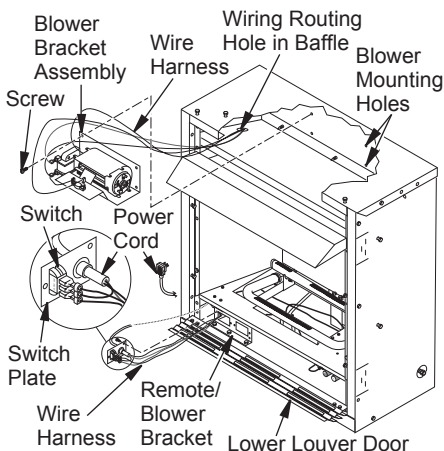
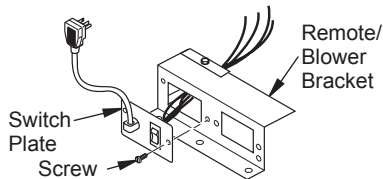

Figure 14 - Installing Blower Bracket Assembly (Remote-Ready Unit Shown)
Figure 16 - Installing Switch Plate to Remote/Blower Bracket
- Note the wire locations on back of AUTO/OFF/ON switch. The terminals on back of switch are numbered 1, 2 and 3. Carefully remove red wire from terminal 3 and blue wire from terminal 1. Black wire can remain on middle terminal 2 (see Figure 14).
- In top of the fireplace cabinet, locate the four mounting holes on the outer casing. Align these four holes with those on the blower bracket assembly. Attach blower bracket assembly to the outer casing with 4 #10 screws provided (see Figure 14).
- Insert the 4 wire harnesses from behind the remote/blower bracket through hole in rear of bracket with bushing and through the left rectangular hole to front of fireplace (see Figure 14).
- Install the switch plate on the remote/blower bracket with 2 #10 screws provided (see Figure 16). Route power cord out of the cabinet by inserting it through the bushing on the outer casing (see Figure 14). Plug fan kit into 120-Volt grounded power supply and test operation. **Note:** When switch is in the AUTO position, the fan will start after the fireplace has run for a few moments. The fan will continue to run for several moments after the fireplace has been turned off. When switch is in the ON position, the fan will run until turned to OFF.